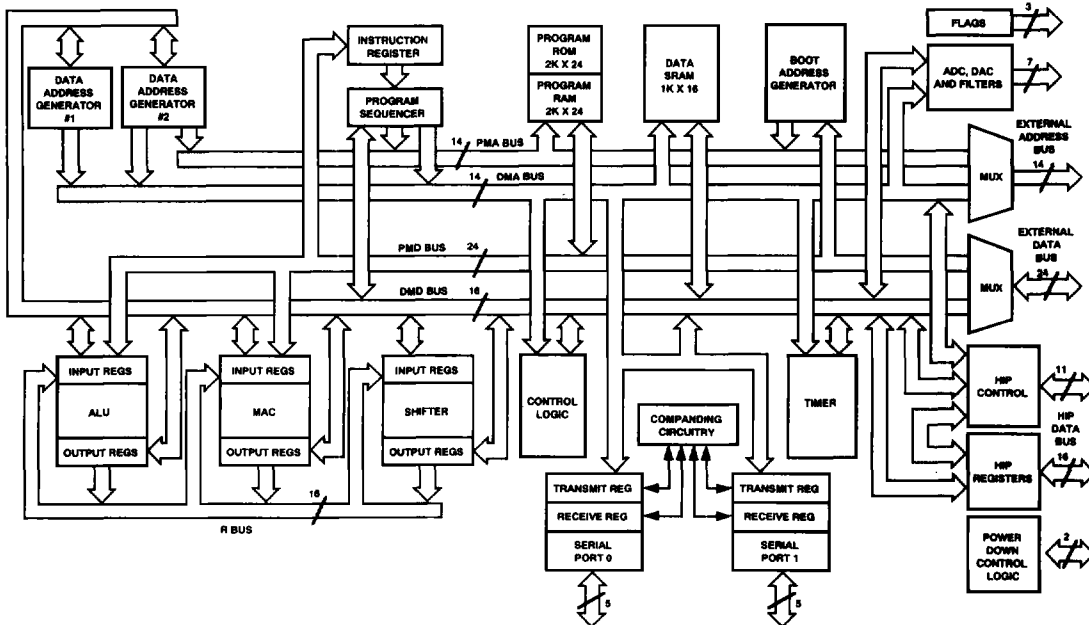

Figure 1. ADSP-21msp5xA Block Diagram
Figure 1 is an overall block diagram of the ADSP-21msp5xA. The processor contains three independent computational units: the ALU, the multiplier/accumulator (MAC), and the shifter. The computational units process 16-bit data directly and have provisions to support multiprecision computations. The ALU performs a standard set of arithmetic and logic operations; division primitives are also supported. The MAC performs single-cycle multiply, multiply/add and multiply/subtract operations. The shifter performs logical and arithmetic shifts, normalization, denormalization, and derive exponent operations. The shifter can be used to efficiently implement numeric format control including multiword and block floating-point representations. The internal result (R) bus directly connects the computational units so that the output of any unit may be the input of any unit on the next cycle.